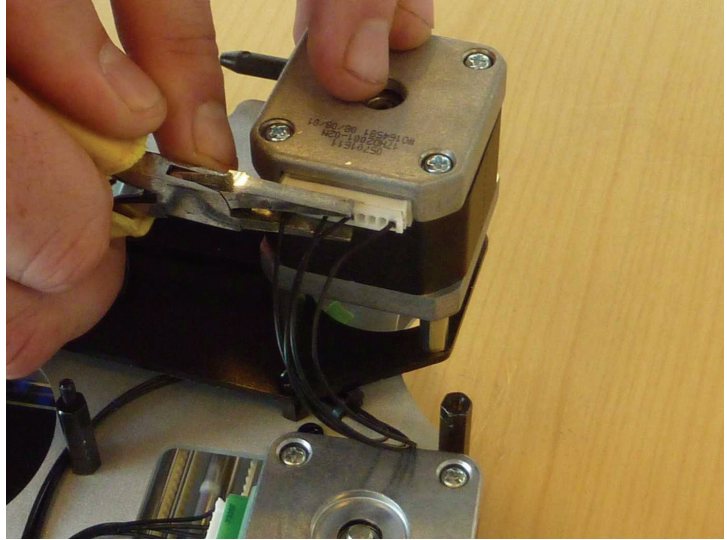

Figure 21
24. See Figure 21. Disconnect the color wheel motor (the largest motor on the module) at its multi-connector.